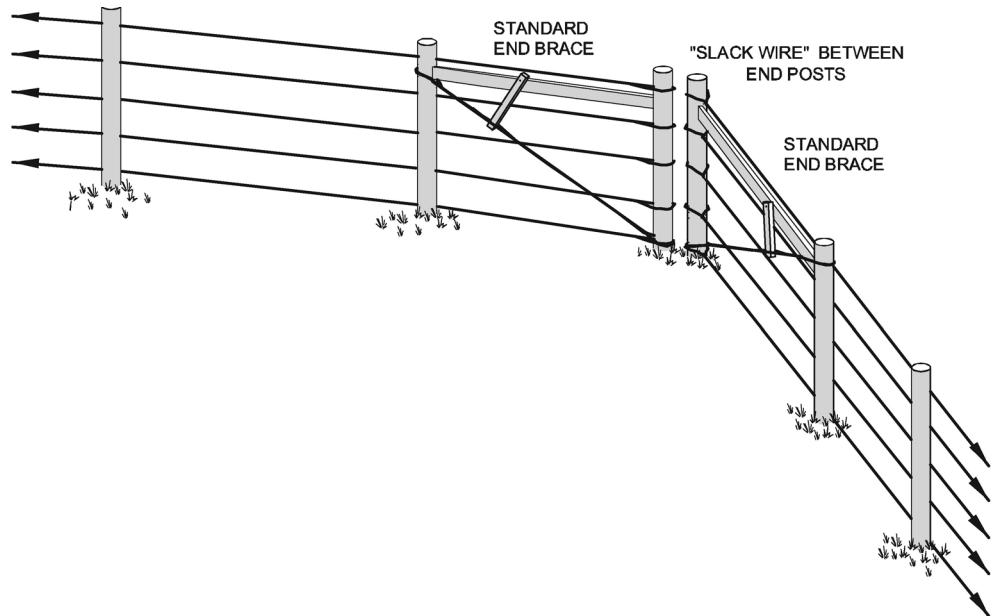
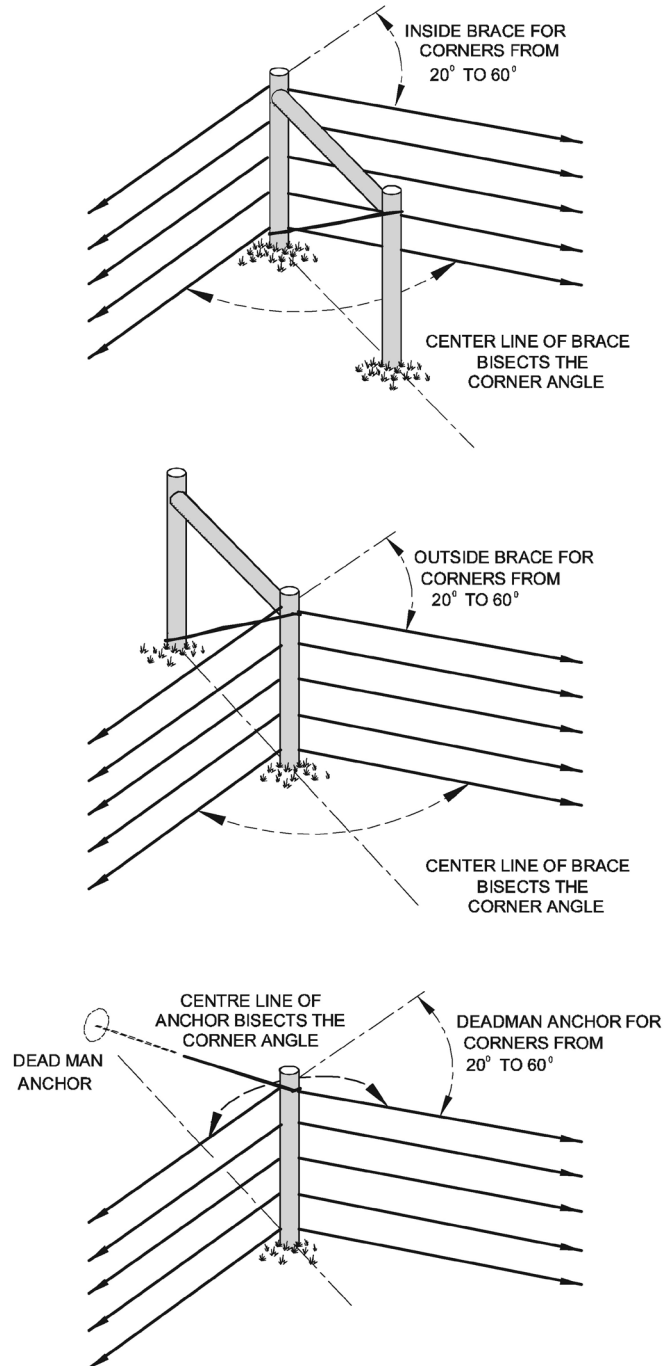

Figure 13 Separate Braces at a Tie-Off Corner (changes less than 60°)
Figure 15 Change of Direction Braces (for changes less than 60°)
If it's appropriate to tie the fence wires off a **separate** end brace can be constructed for each fence section as in Figure 13 below. Rather than 'share' a common tie off post, each section is tied off to a separate end post producing no forces out of line with the braces. This requires an extra driven post per corner and 'slack' wiring the opening between posts but ensures a stable corner.
- for corners less than 60° use either separate corner posts, Figure 13, or brace the corner post, Figure 15
Often the fence change of direction occurs when it is not appropriate to tie off the fence wires (i.e. less than the 660 feet or 1320 feet rule for tensioning wire). Rather than have many short sections of fence, the wires can continue around the change of direction post provided the post can be adequately supported and special stapling methods are used. Figure 15, below, illustrates three possible braces. Refer to Factsheet 307.100-2 *Fence Wire: - Dispensing, Stapling, Joining, Tying, Tensioning and Grounding* for wire tie-off distances and special stapling methods.